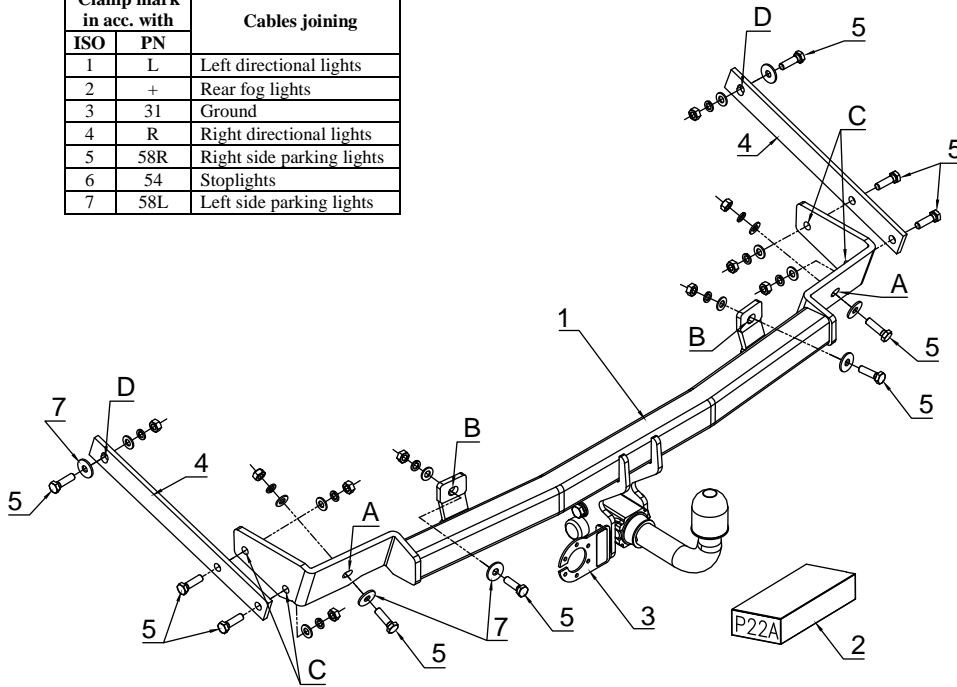

Fig.1
2. Put main bar of the towbar (pos. 1) to rear part of the car and through existing holes and holes in the towbar (pos. A and B) fix it using bolts M10x35mm (pos. 5), use washers (pos. 7) as showed in the fig.1. Fix loosely.
3. Fix elements (pos. 4) through holes (pos. C) using bolts M10x35mm, next through holes (pos. D) in element (pos. 5) fix to original holes in the car using bolts M10x35mm and washers (pos. 7) (as showed in the drawing).